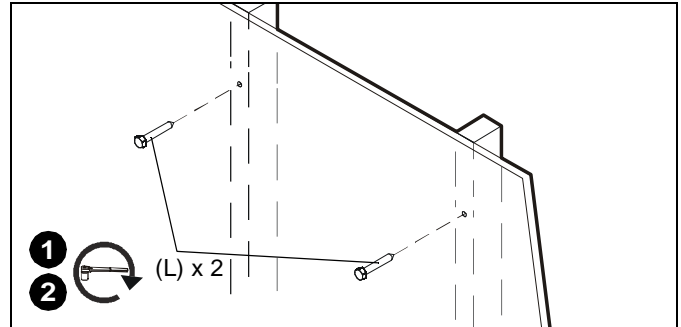

Figure 19
1. Use one 5/16" x 2-1/2" lag bolt (L) through product and into pilot hole. (See Figure 19)